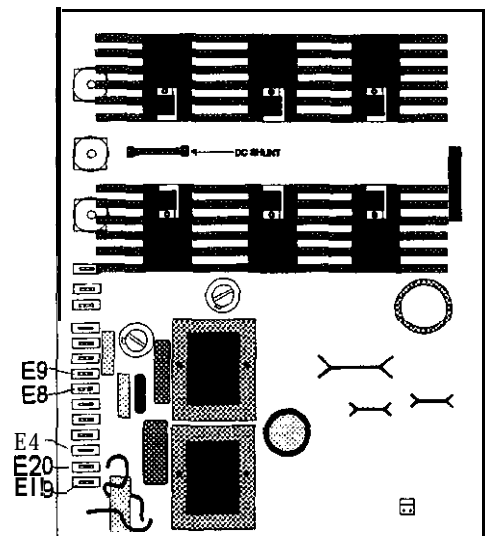

Figure 12
303-2. Use the appropriate chart to change the output voltage (See Figure 12.):
- a. To **change** the voltage from 208 to 240, remove transformer lead #12 from E9 on the power board. Insulate the lead and tie it back to the bundle at the main transformer. (See Figure 12.) Find transformer lead #13 in this bundle and attach lead #13 to E9 on the power board.